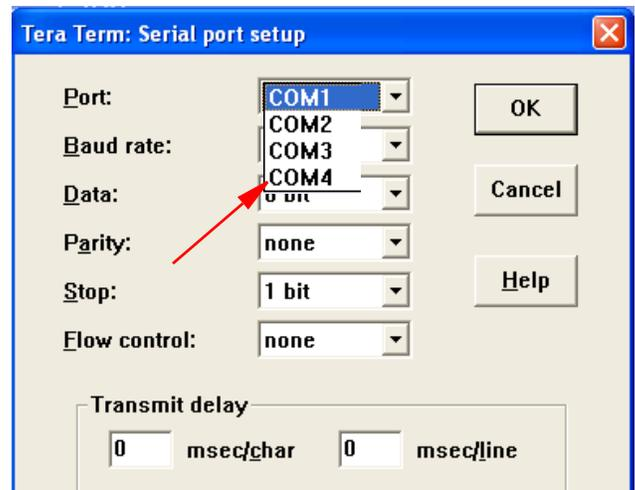

FIG. 9
6. Note this COM port to use in setting the Tera Term (see “Changing the Serial/COM Port” on page 3). See FIG. 9.